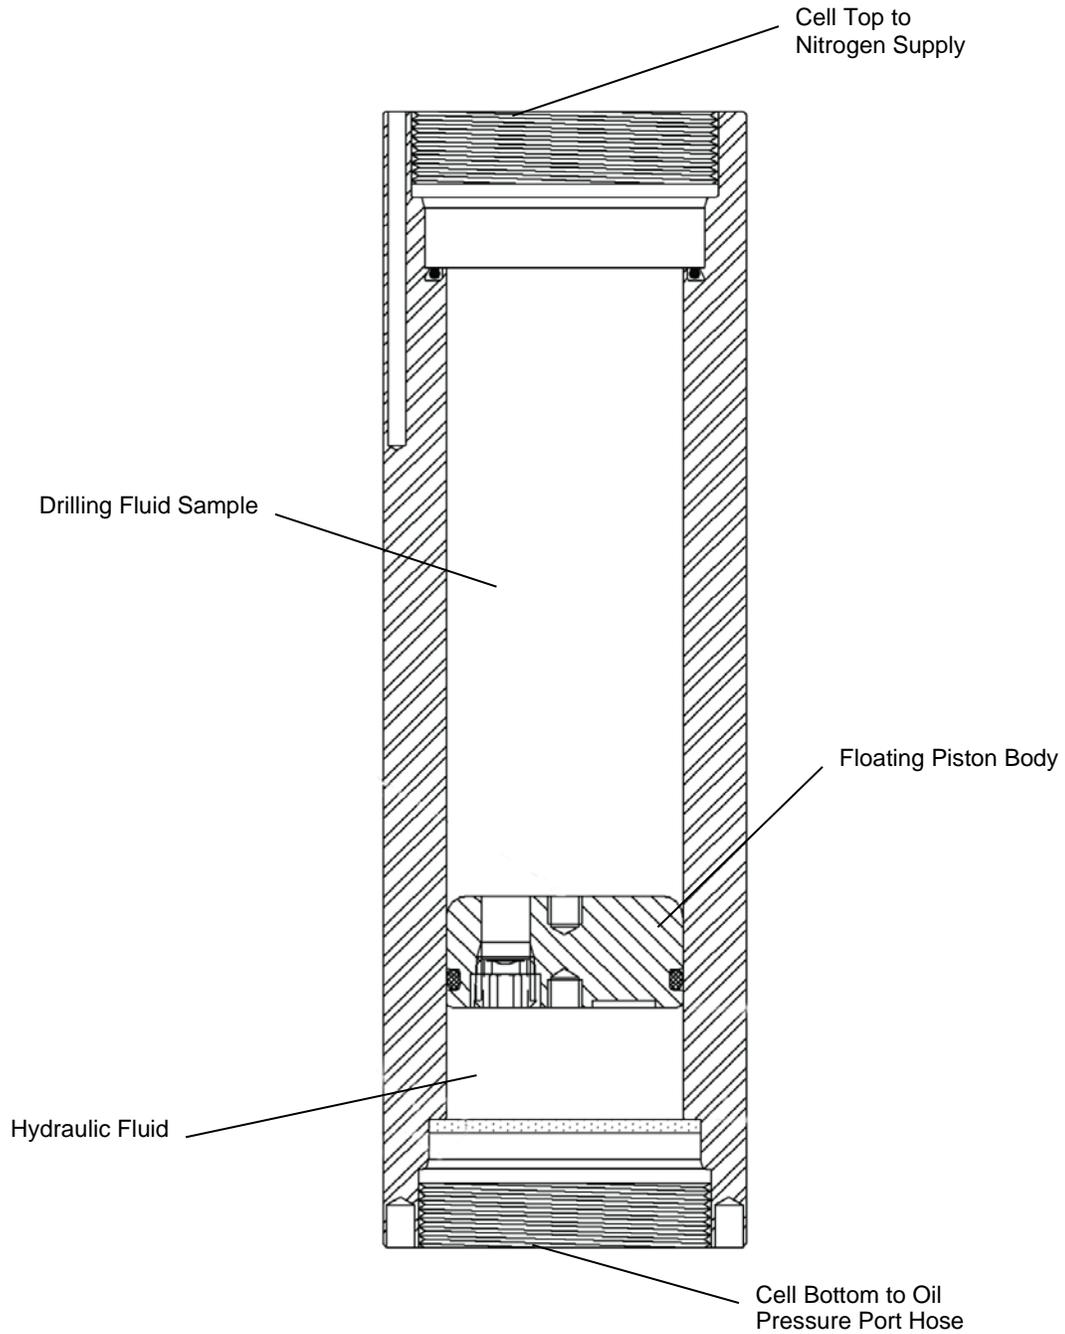

Figure 6-3 Final APPA Cell Arrangement
- Figure 6-3, a drawing that shows how the APPA cell is arranged (upright cell)
5. Place the APPA cell upright onto a cell stand. See Figure 6-3. If placing the APPA cell into the heater chamber, make sure that the cell is secure and the heater chamber latches are closed.